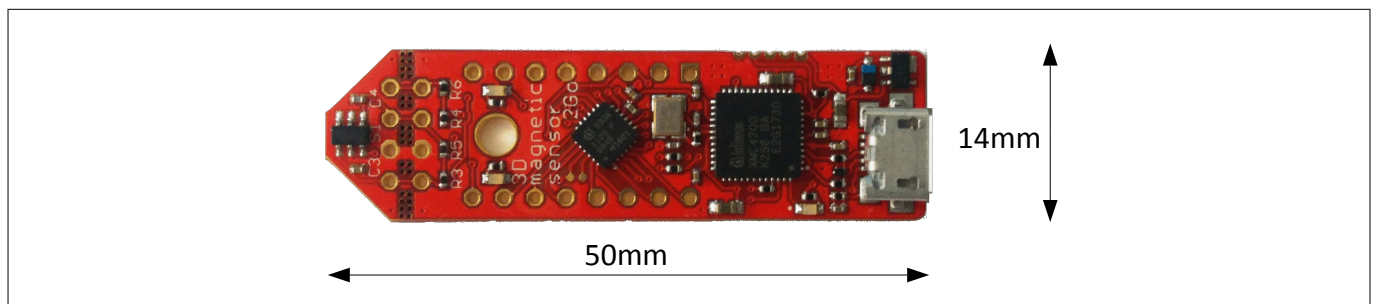

Figure 1 **3D Magnetic Sensor 2 Go EvalBoard**
- The 3D evaluation board (EvalBoard) as shown in Figure 1, a ready-to-use printed circuit board (PCB) with the 3D Hall sensor. The EvalBoard is based on the XMC2Go-Kit. More technical documents and detailed description can be found at <http://www.infineon.com/xmc2go>